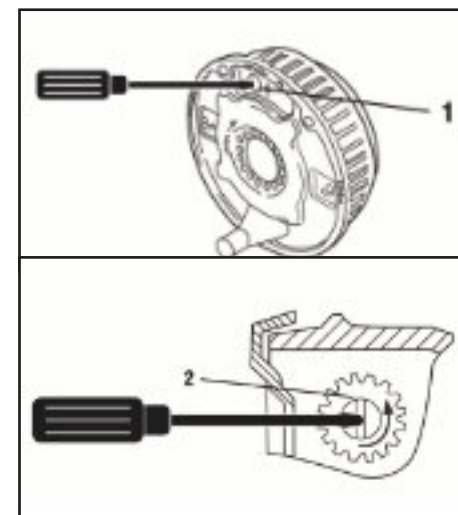

FIG 8.
2. Release the handbrake to the fully off position. If the handbrake will not go down the whole way because of the fairing or any other obstruction then the fairing must be cut away and/or the obstruction removed to achieve this desired position. It will not be possible to set up the braking system properly when the handbrake is not in the fully off position (fig. 8).
4. Remove the inner plastic bung from the back plate to expose the "star-wheel" adjuster (fig. 8).
5. Rotating the road wheel in the forward direction (never backwards), adjust the star-wheel with a suitable screwdriver in the direction of the arrow embossed on the back plate until there is resistance in the wheel rotation (fig. 8).
6. Slacken off the star-wheel adjuster until the road wheel turns freely in the forward direction (fig. 8).
11. Remove the slack in the brake rod by adjusting the long ball nut to the rear of the balance bar, ensuring the overrun lever makes contact with the end of the towing shaft. Over-adjustment to the long ball nut (Fig.10) could induce movement of the inner brake cable, reducing the effective clearance of the brake shoes. If the overrun lever will not make contact, it is possible the two lock nuts, forward of the spring cylinder, are incorrectly adjusted. Loosen the nuts and adjust the brake rod as above (Fig. 8).